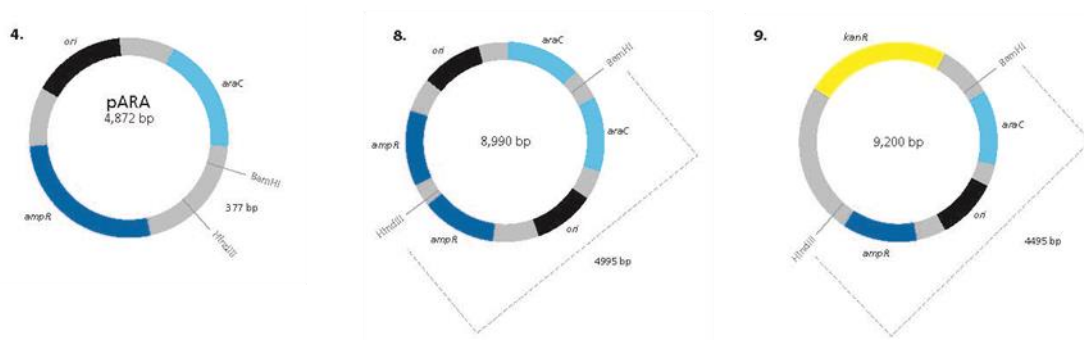

Figure 7.1 Possible plasmid constructs in transformed bacteria producing white colonies on the LB/amp/ara plates
The plasmid construct must contain the ampicillin resistance gene, in order to be able to survive on a plate containing ampicillin. The plasmid should not contain the *rfp* gene, or else it would produce a red colony. If you consider the 10 possible plasmids made by recombination, shown in figure 3.1 of this guide) only 3 possibilities exist. These are shown in figure 7.1. Either the large fragment from pARA (containing the *ampR* gene): re-ligates to the smaller pARA fragment (4); ligates to itself (8), or; ligates to the large fragment containing the *kanR* gene from the pKAN-R plasmid (9).